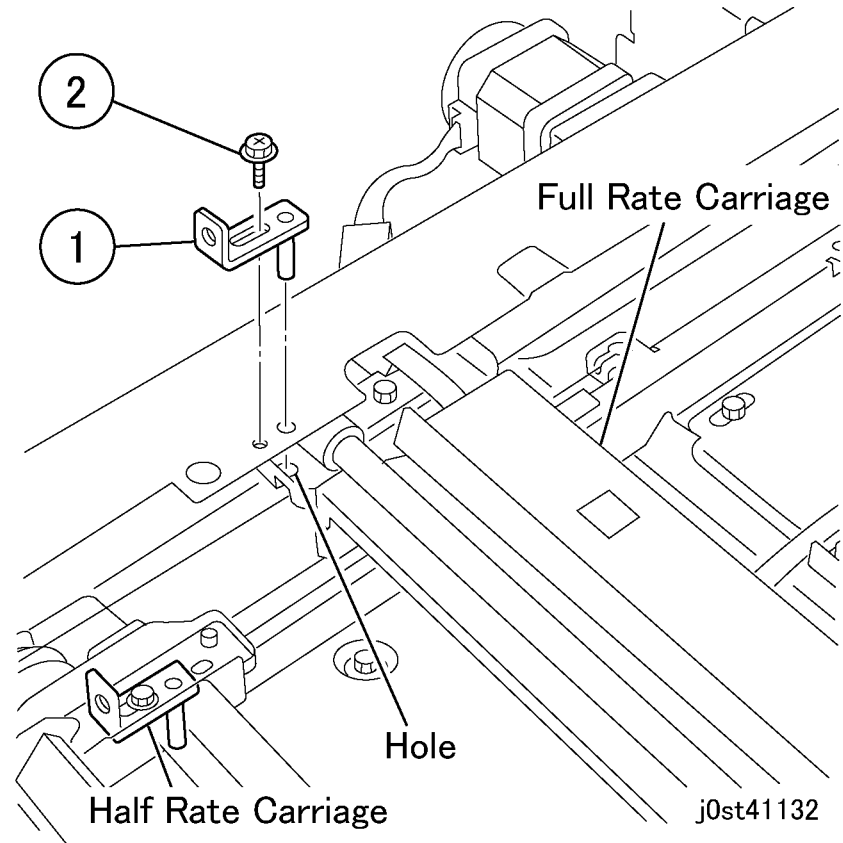

Figure 5 Position Adjustment of Full Rate Carriage 1/2
7. Fix the tool to the tool hole on the frame and check the tool holes of the frame and the Full Rate Carriage. (Figure 5)